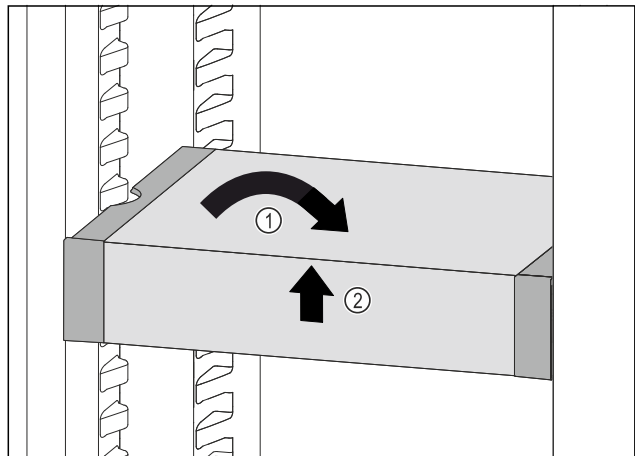

Fig. 80
- ▶ Set VarioSafe straight. Fig. 80 (1)
- ▶ Lift VarioSafe at the front. Fig. 80 (2)